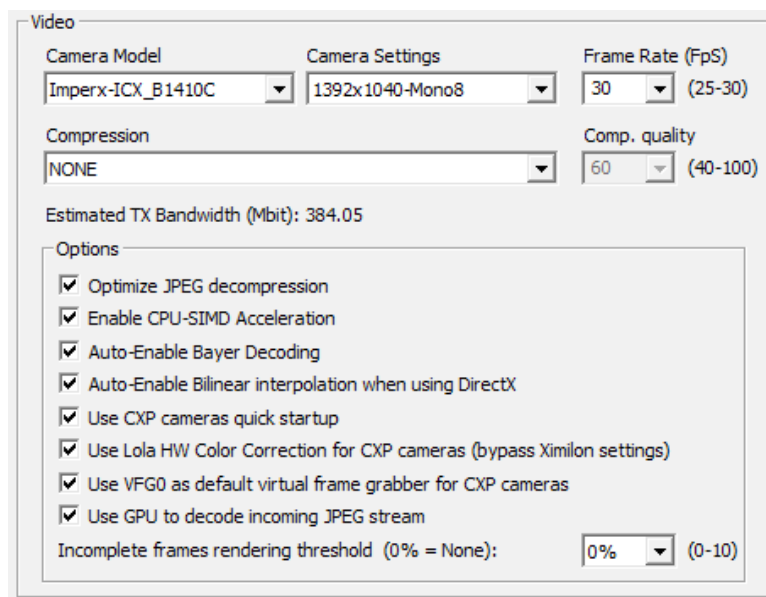

Figure 9: Lola Setup, Video section
- “**Incomplete frames rendering threshold**”: when using uncompressed video you can also select the incomplete frames rendering threshold (Fig. 9); 0% means that Lola must receive ALL video packets from the remote host in order to correctly render the entire video frame. Setting a percentage between 1% to 10% means that LOLA can render the video frame also if it hasn't received all the necessary packets to rebuild the entire frame: in case of some lost network packets, this results in small black lines randomly rendered on the display surface. In normal operation conditions, there shall be no lost data packets, thus this parameter shall be left 0% (which is the default value). Use it only if you experience some small network problems which affects video.